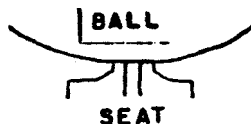

FIG. 3
- 2) Ball and seat form an almost flat seal - See Fig. 3 - this causes basically on/off discharge since very little float movement opens seat fully.